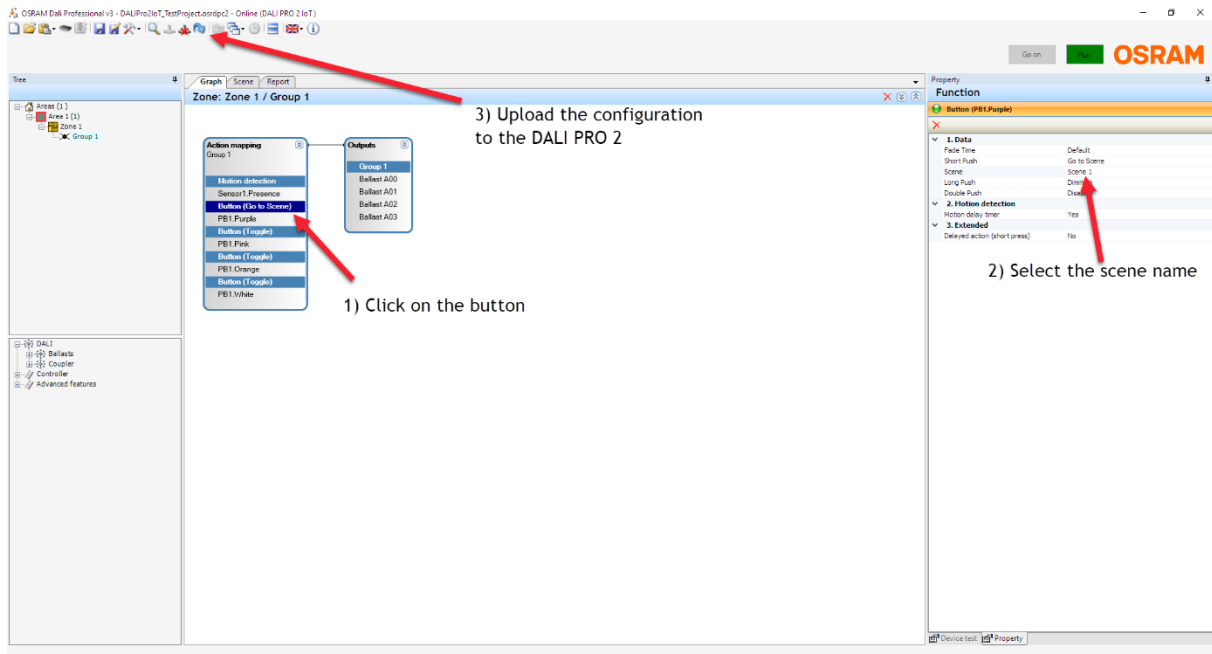

Figure 14
2. Program an input device (e.g. a button) to recall that scene (see Figure 14).
3. Upload the new configuration to DALI PRO 2 (see Figure 14).